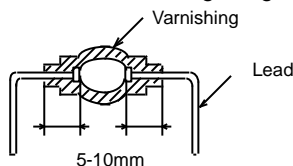

Fig.3 Varnish coating
- b) For planned use under such an undesirable condition, consult Hitachi in advance. It should be noted that semiconductor devices, if treated with varnish coating as shown in Fig.3, will increase their resistance to humidity by a factor of 3 to 4 times.